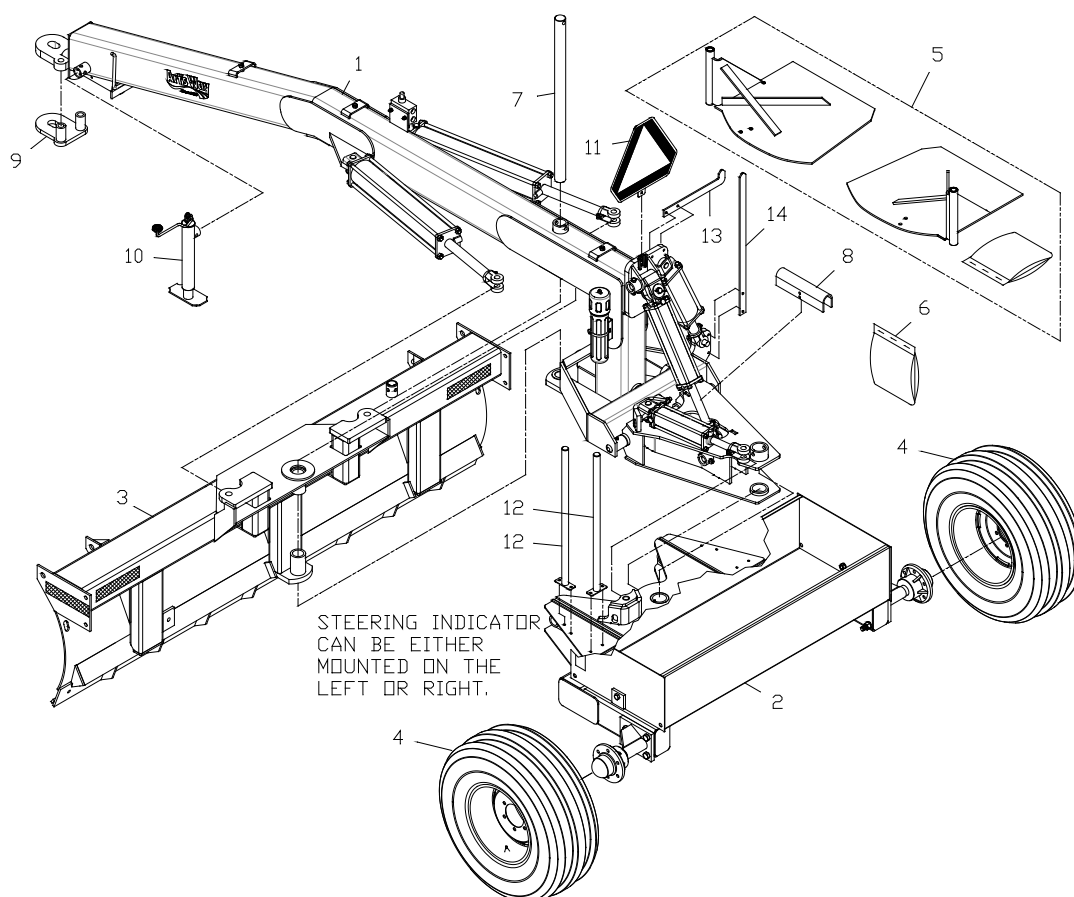

Figure 1. Grader Receipt
- Assemble Wheel and Tire Assemblies to the Rear Frame and Sandbox Assembly (See figure 1).